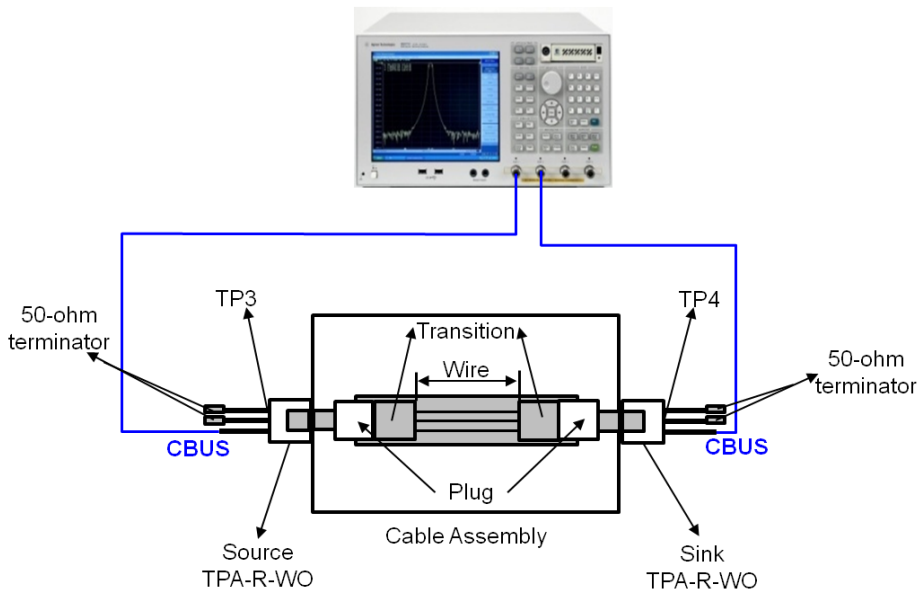

Figure 5-2. CBUS Cable Delay Test Setup
1. Connect DUT (Figure 5-2).
1. Connect DUT (Figure 5-2.)